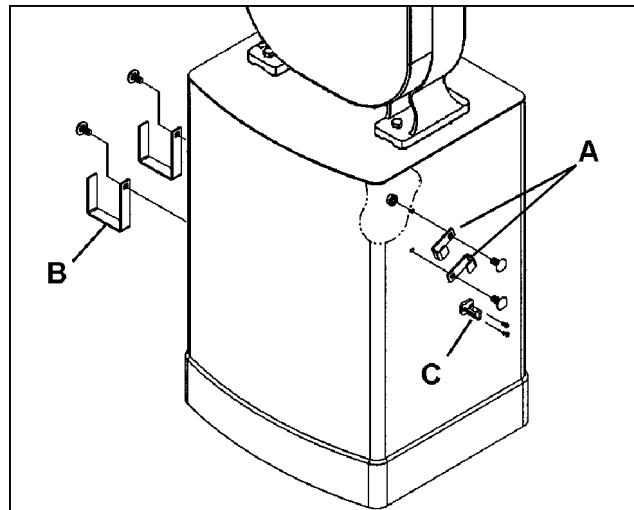

Fig. 12
24. Mount the two miter gauge hooks (A, Fig. 12) to the side of the stand with two M8 x 16 carriage bolts and two flanged hex nuts. When not in use, the miter gauge can be placed in these hooks (see “Miter Gauge”, page 23).
25. Mount the blade hook (C, Fig. 12) with two M4 x 10 pan head screws as shown. The blade hook will hold a rolled-up spare blade.
26. Mount the two fence hooks (B, Fig. 12) to the opposite side of the stand with two M8 x 16 carriage bolts and two flanged hex nuts. When not in use, the rip fence can be placed in these hooks.